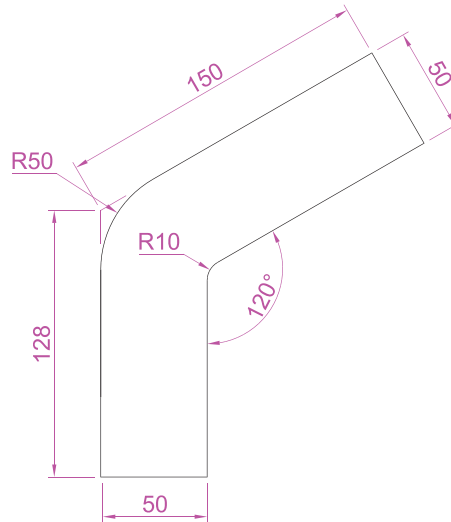

Fig. 17.22 Second example – 2D outlines in 3D space. Outline to be extruded
- Place the drawing area in the **ViewCube/Front** view, **Zoom** to 1 and construct the outline in Fig. 17.22.